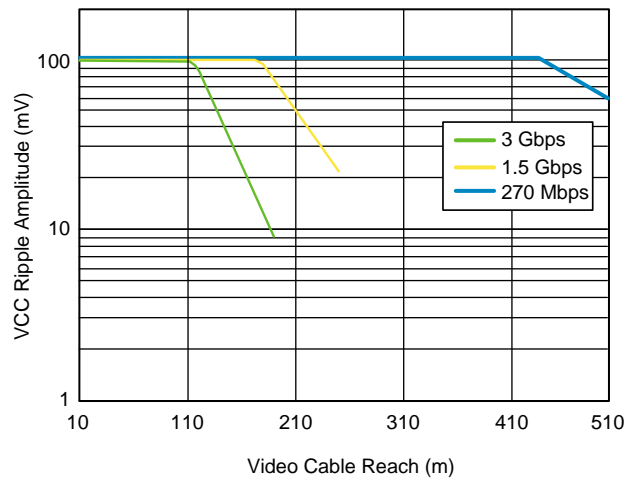

Figure 2. V_{CC} Ripple Requirements for SDI Equalizers
The graph in Figure 2 shows the maximum power supply ripple on V_{CC} based on the data rate of the video signal and the desired video cable reach. The vertical axis is plotted on a log scale, making it easier to resolve the allowable ripple voltage for a longer cable reach. In order to achieve maximum cable reach, the ripple voltage limits for standard-definition (SD) and high-definition (HD) data rates are about 58mV and 22mV respectively, while for 3G at 190m is about 9mV. The ripple amplitude should be ≤ 100 mV regardless of the SDI data rate or cable reach, in order to ensure the full functionality of the equalizer.